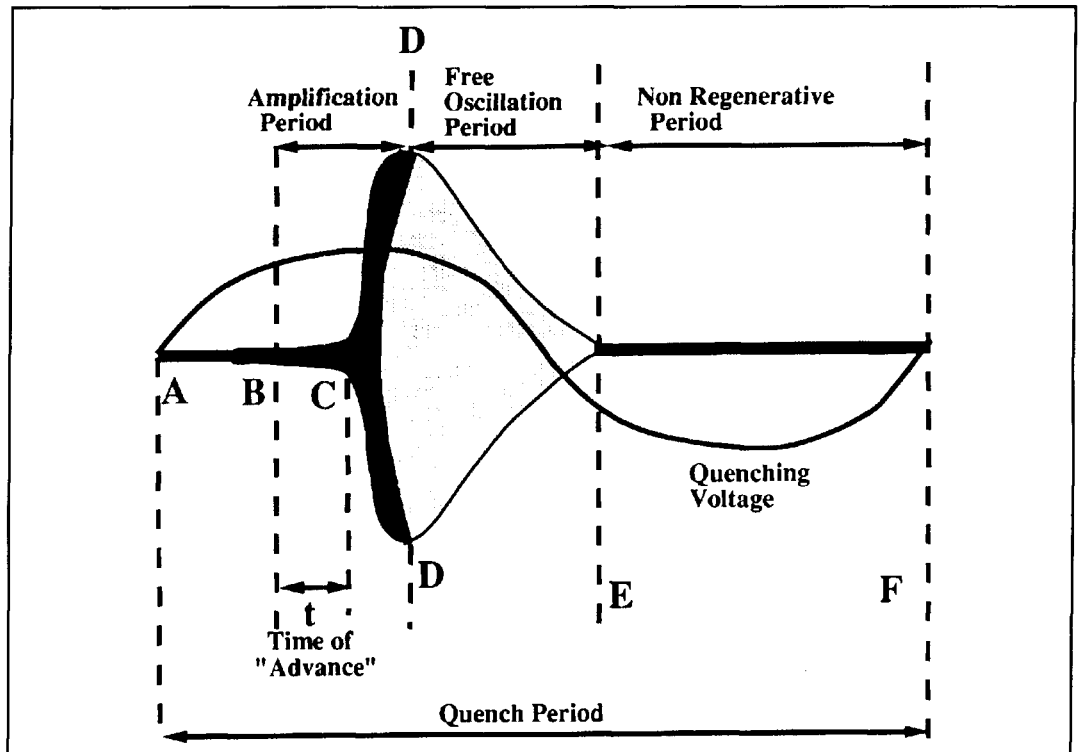

Figure 3. Characteristic RF envelope of a super regenerative detector.
**Figure 3** is adapted from a 1935 paper by Hikosaburo Ataka,2 Meidi College of
point just after it has broken into free oscillation—just beyond point “D” in Figure 3.